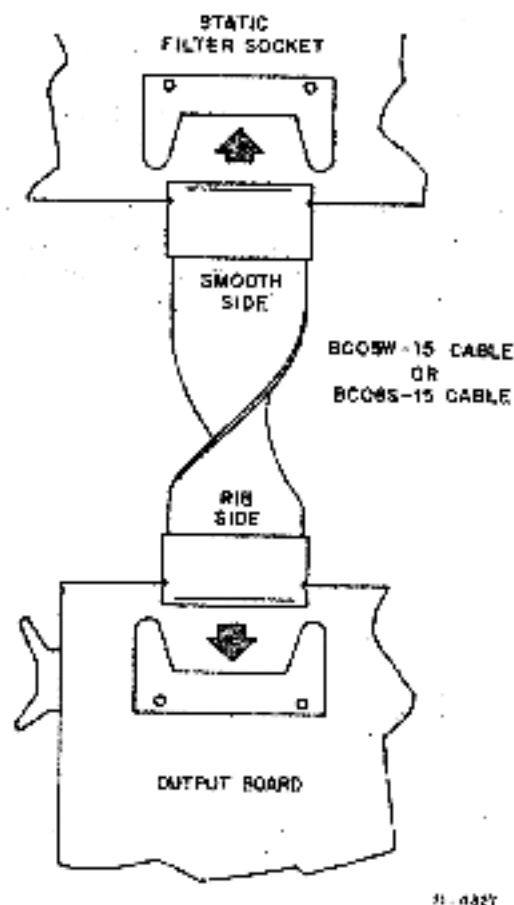

Figure 2-3 BC05W-15 and BC08S-15 Interconnection
- c. Remove the BC05W-15 cable(s) from the H3271 and install the cable(s) (with smooth side up) to the static filter socket(s) on the back of the H317-E distribution panel. Refer to D-UA-DZ11-0-0 and Figure 2-3.
7. Replace the H327 test connector with the BC05W-15 cable and observe the same caution as in step 6. Install the other end of the cable at the static filter socket on the back of the distribution panel. Refer to Figure 2-3 and D-UA-DZ11-0-0.
- a. Connect the other end of the BC08S cable to the static filter on the back of the distribution panel (H317-F) with smooth side up. Refer to Figure 2-3 and D-UA-DZ11-0-0.
8. Remove the BC08S cable from the H3190 test connector and plug it into the static filter socket on the back of the distribution panel (H317-F) with smooth side up. Refer to Figure 2-3 and D-UA-DZ11-0-0.